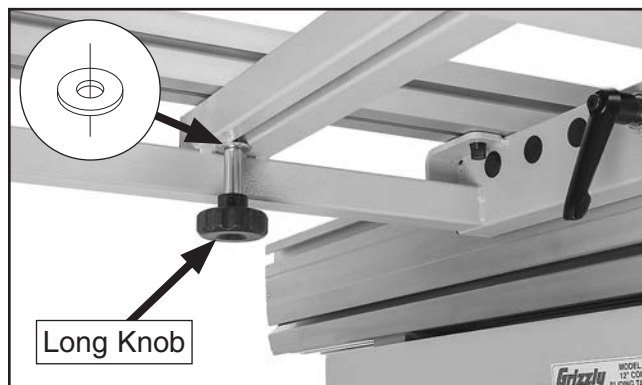

Figure 50. Long knob installed under middle of crosscut fence.
49. From underneath middle of crosscut fence, thread M8-1.25 long knob with (1) 8mm fender washer onto previously installed T-bolt (see **Figure 50**).